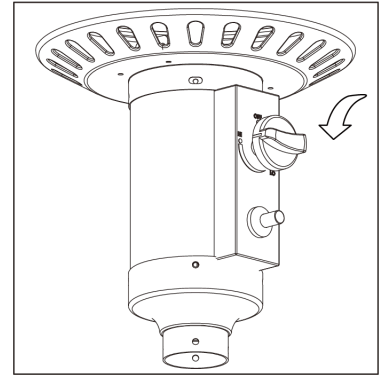

Figure 1
- Step 1** Turn on the valve on the gas cylinder. Press and turn the control knob to the PILOT position (counter-clockwise until the knob stops) (**Figure 1**)